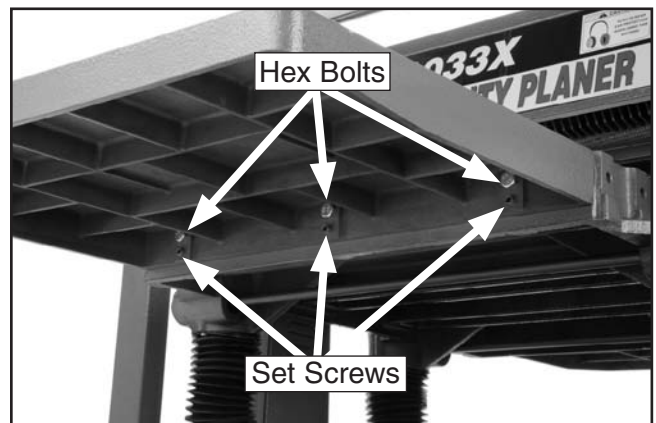

Figure 7. Extension wing fasteners and leveling controls.
1. With the help of an assistant, attach the table extension wings to the planer table (**Figure 7**) with the M8-1.25 x 25 hex bolts. Hand tighten the bolts for now.
2. Install the M8-1.25 x 20 set screws (**Figure 7**) in the holes in the bottom of the wings.